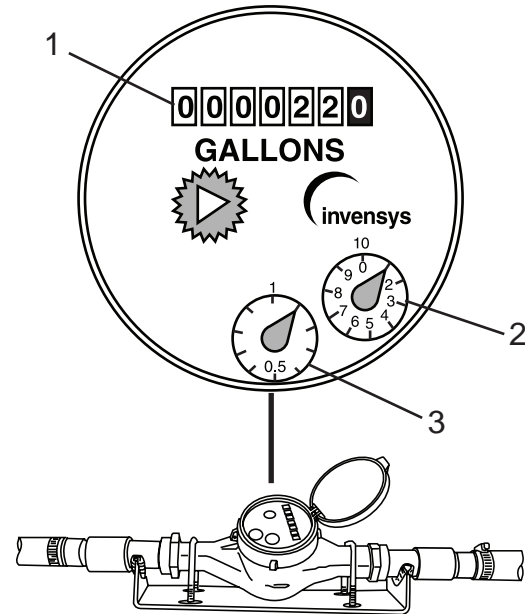

Figure 87
The Precision PMM™ water meter (Figure 87) is installed directly in the water supply line to monitor the amount of water used.
- a. Record the reading from the counter (Figure 87, Item 1), in this case 220 gallons (833 liters).
- b. Add the reading from the sweep hand on the “10” counter (Figure 87, Item 2), in this case 1 gallon (3.8 liter).
- c. Add the reading from the sweep hand on the “1” (tenths of a gallon) counter (Figure 87, Item 3), in this case 0.1 gallon (0.4 liter). The actual reading of the meter is 221.1 gallons (836 liters).